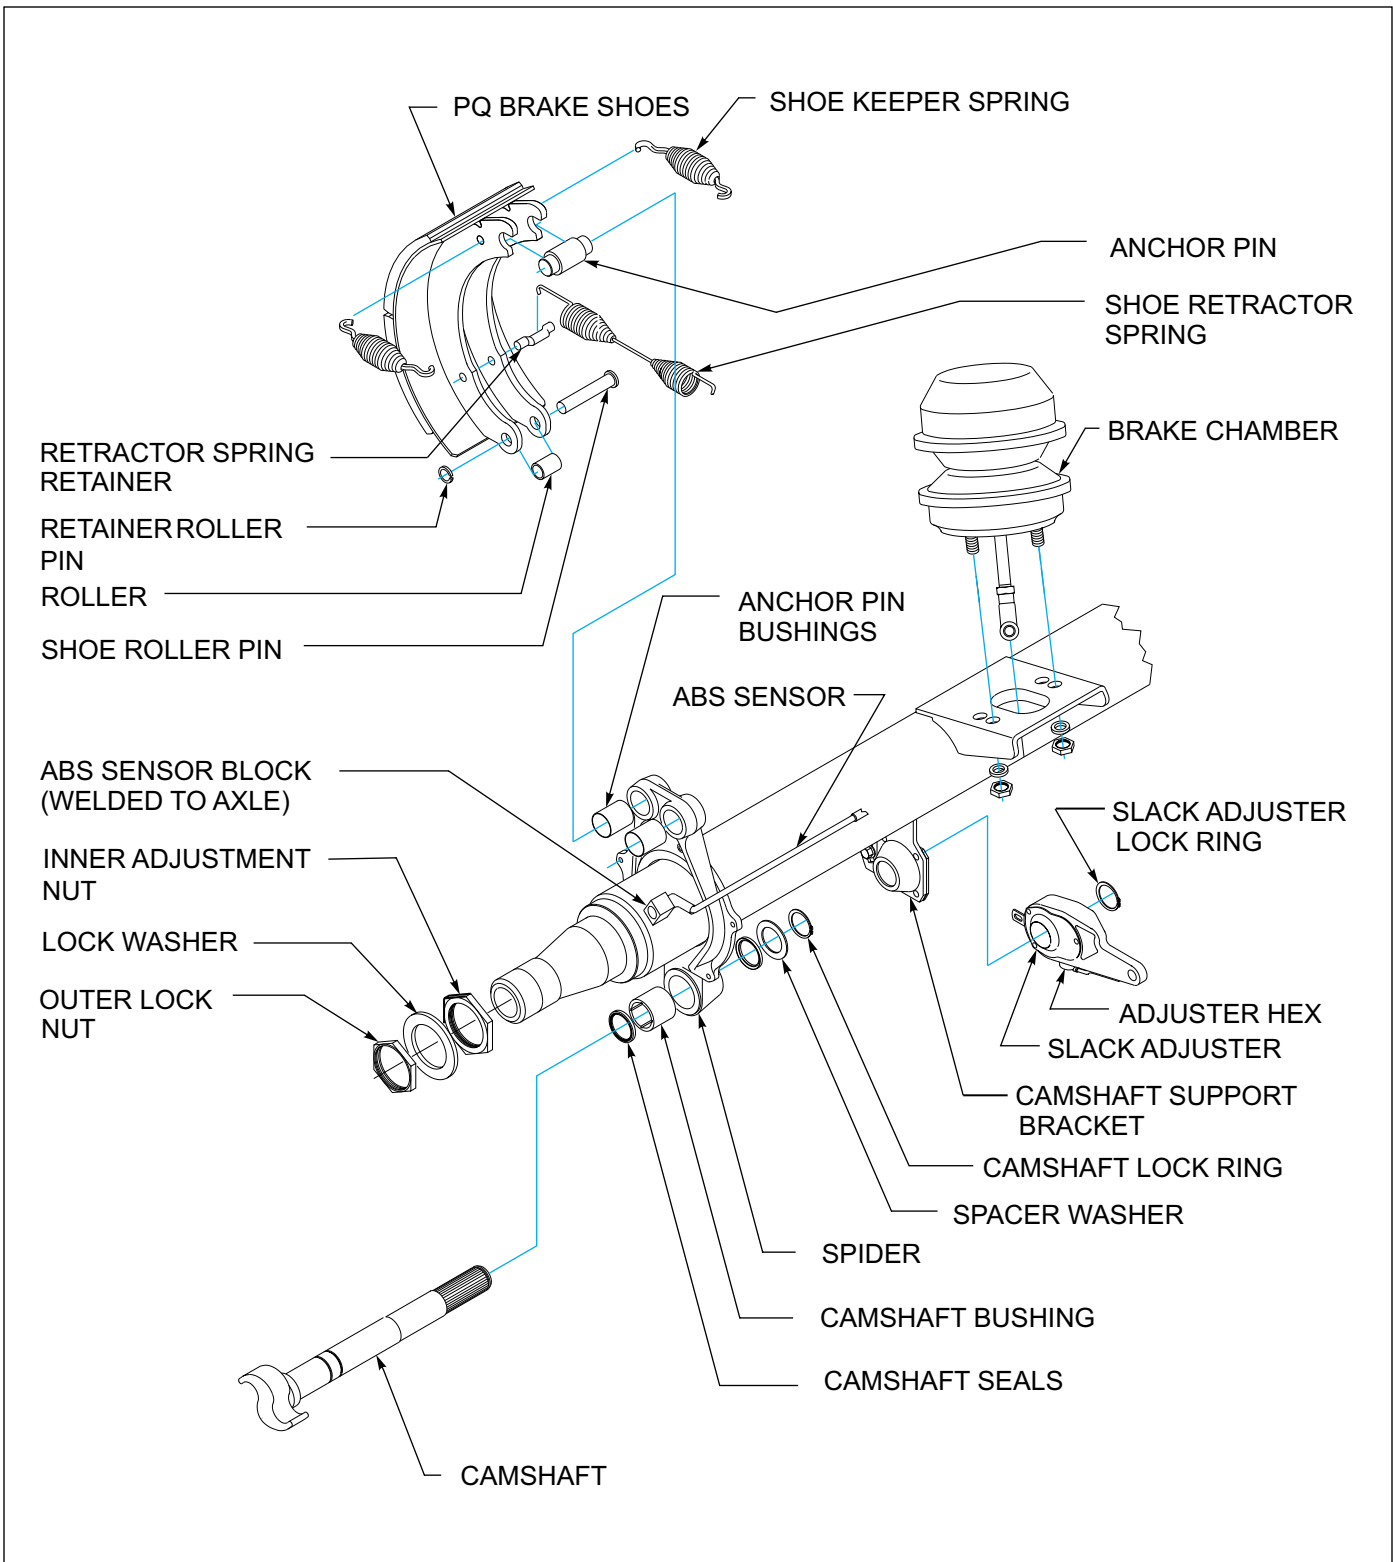

Figure 4-11: Axle and Brake Assembly
2. Remove slack adjuster lock ring and slack adjuster (See Figure 4-11.)
1. Release brakes and back off slack adjuster (See Figure 4-11.)